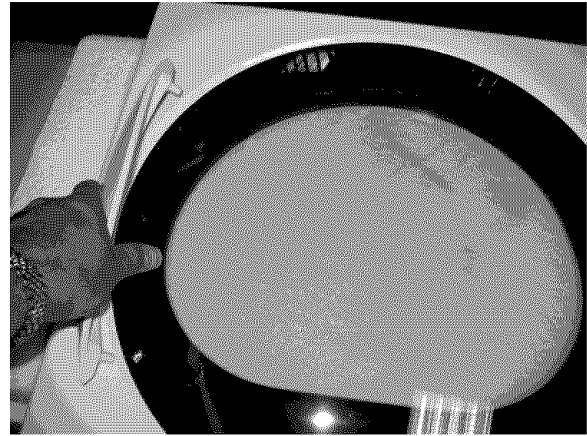

Figure 5
6. Pull handle away from door assembly. (Figure 5)